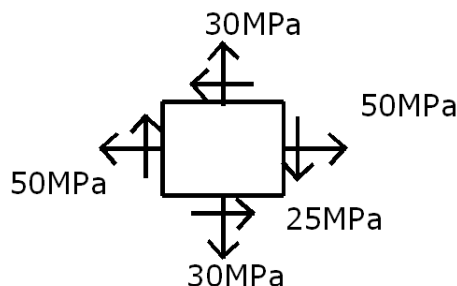

Fig. 3
4. Find i) The principal planes and principal stresses . ii) The plane of maximum shear stress and its intensity for the element shown in fig. 3 by using mohr's circle method. **14 M**